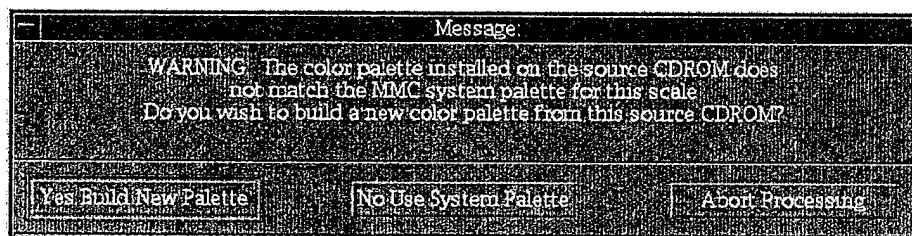

Figure 3. Color palette warning message
- f. This CDROM contains a new color palette file, so a warning dialog box appears (figure 3) stating that the color palette installed on the CDROM does not match the MMC system palette. Click on *Yes Build New Palette.*